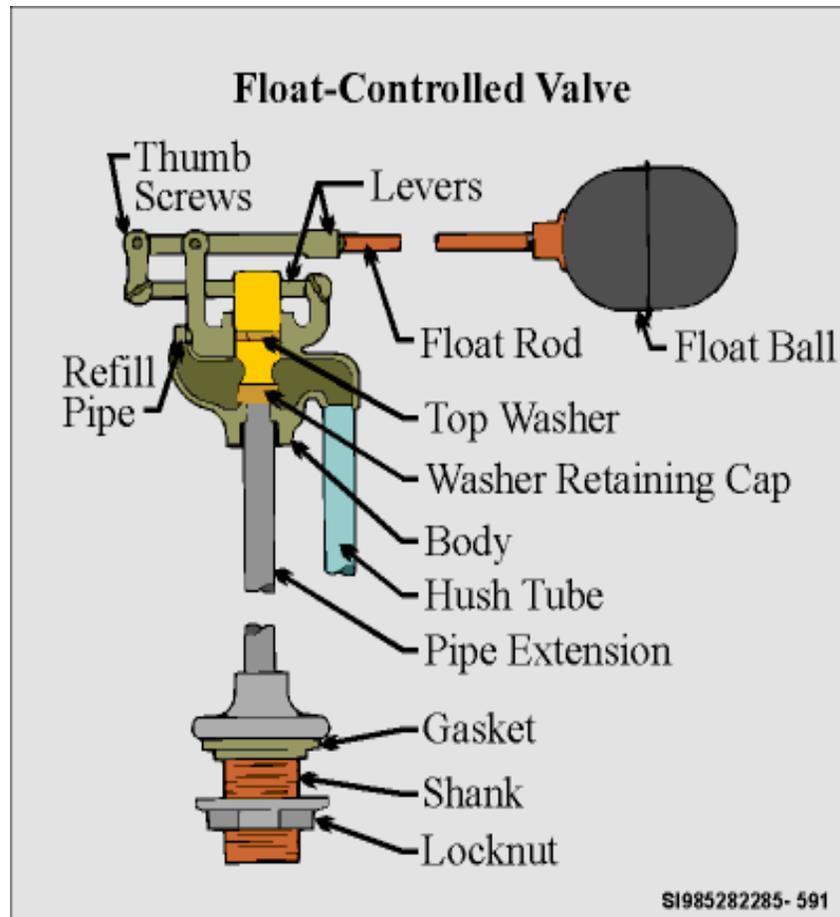

Figure 1. Float Controlled Valve
1. Background: There are many types of float-controlled valves, but most of them work on the same principle as the one used in a water closet tank to automatically control the water. Float-controlled valves are often called float valves (See Figure 1). There are many different float controlled valves used today one type is the flush-ball valve, which may be called a Douglas valve. Another type is the traditional plunger-valve. There are also float cup ballcocks (also know as a Fluidmaster); and floatless ballcocks.